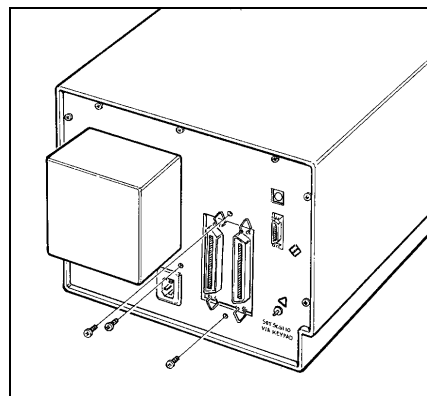

Figure 5-14. Removing rear panel screws
- d. Turn the ProPalette unit right-side-up and remove the three screws securing the rear panel to the ProPalette electronics drawer (Figure 5-14).